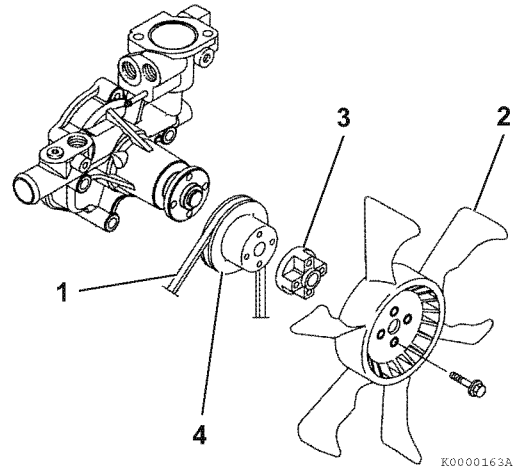

Figure 7-28
14. Reinstall the coolant pump V-pulley (4, **Figure 7-28**), spacer (3, **Figure 7-28**) (if equipped) and engine cooling fan (2, **Figure 7-28**).
15. Reinstall the cooling fan V-belt (1, **Figure 7-28**). Adjust as described in *Check and adjust cooling fan V-belt on page 5-14.*